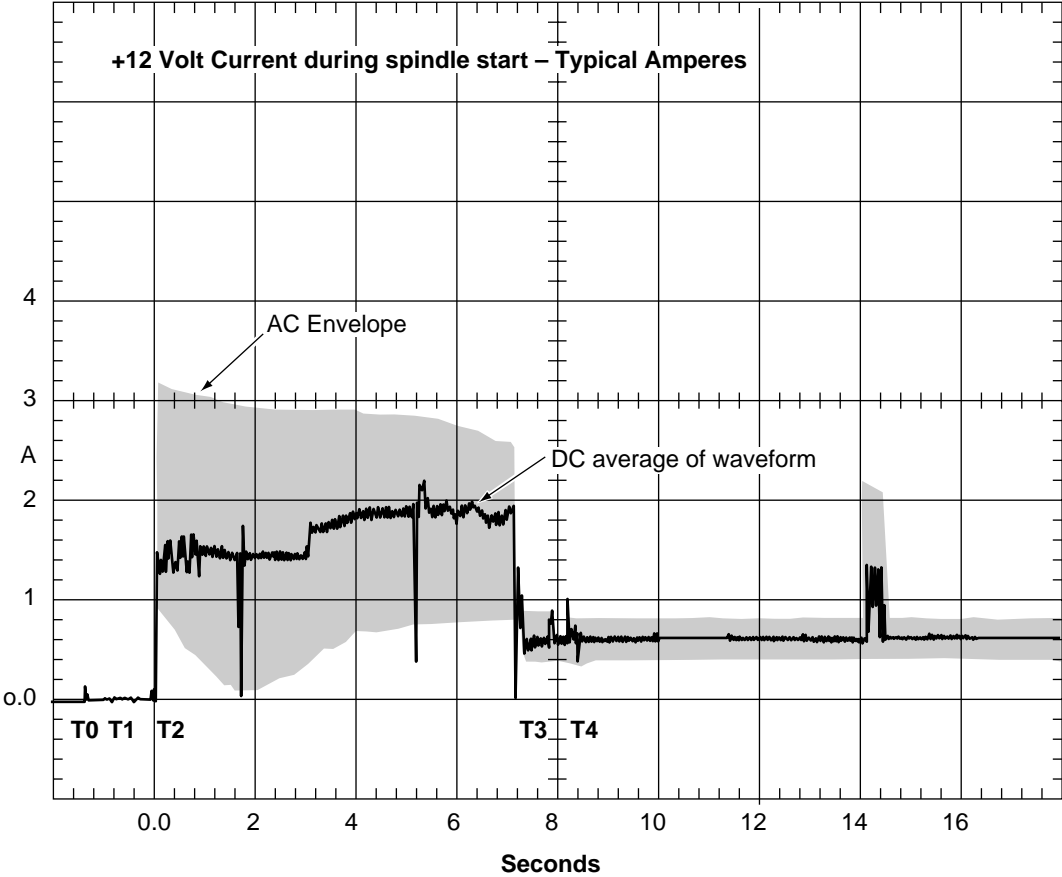

Figure 3. Typical ST336704 drive +12 V current profile
- [3] See +12 V current profile in Figure 3.
Figure 3 identifies the drive +12 V current profile. The current during the various times is as shown: